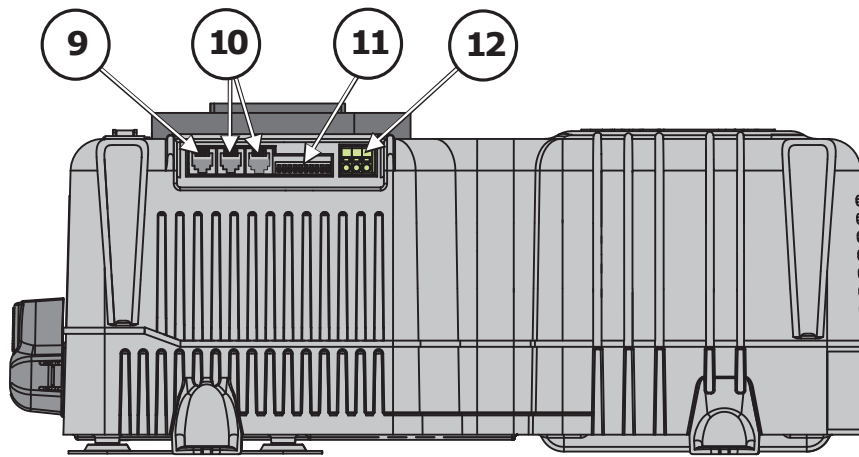
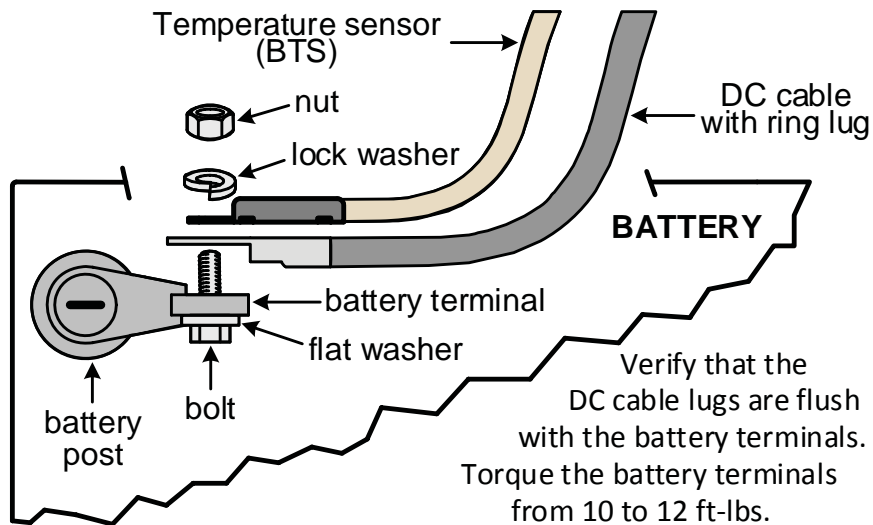

Figure 1-4, Right Side Features
Figure 2-4, DC Cable to Battery Terminals
The BTS cable comes with a RJ11 connector that plugs into the BTS port on the side of the inverter (Figure 1-4, Item 9). Refer to Figure 2-4 for installation instructions, and to Section 4.4 for information on the operation of the BTS.
Refer to Figure 2-4 when connecting the DC wires to the battery. Also, consider the following requirements to ensure maximum performance:
Do not put anything between the battery cable ring lug and the battery post (see Figure 2-4). When connecting the battery cable, it should be placed directly against the battery post. Incorrectly installed hardware causes a high resistance connection which could lead to poor inverter performance, and may melt the cable and terminal connections. Torque from 10 to 12 ft-lbs.
7. Connect the other end of the BTS to the negative terminal of the last battery string (place hardware per Figure 2-4).
- Ensure the DC wire connections (on the battery terminals, fuse lugs/DC circuit breaker, and disconnect) are flush on the surface of the DC terminals, and the hardware (lock washer and nut) used to hold these connections in place are stacked correctly (see Figure 2-4).